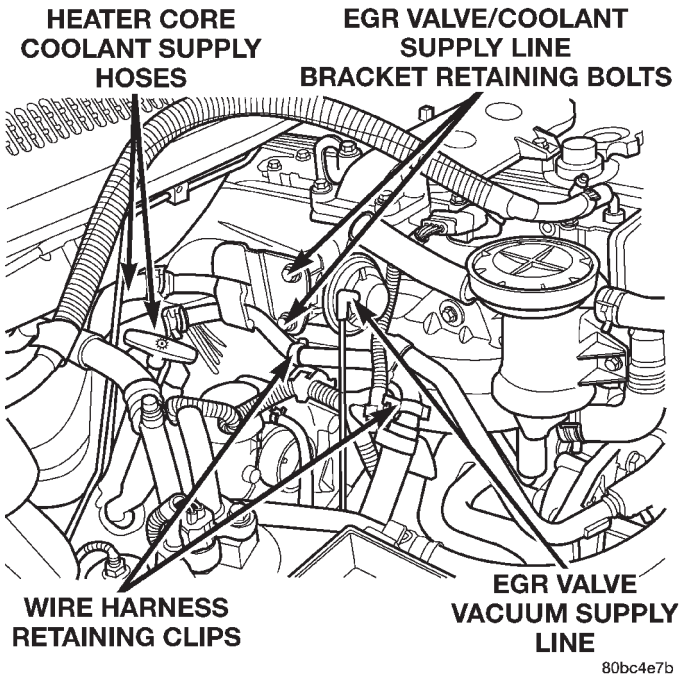

Fig. 19 3.1 L Diesel Engine
- (4) Remove the EGR vacuum supply hose from the EGR valve (Fig. 19).
- (5) Unclip the wire harness from the coolant supply lines (Fig. 19).
- (6) Remove the (2) EGR valve / coolant supply line retaining bolts (Fig. 19).
- (7) Remove the coolant supply line support bracket bolt from the water pump housing.
- (8) Remove the oil separator retaining bolts.
- (9) Disconnect the crankcase vapor supply and return hoses and remove the oil separator from the vehicle.